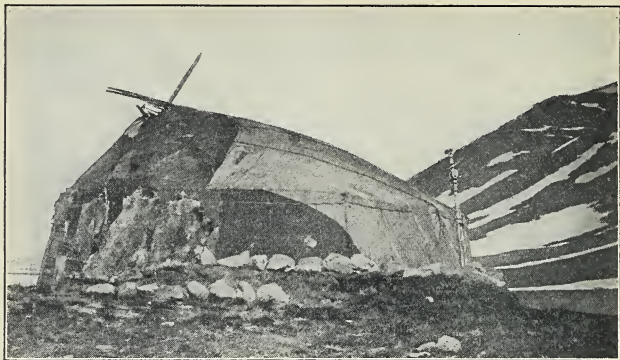

Fig. 542. How has the Siberian used the resources of his stern land for clothing, shelter, and weapons?
**What climate does to us.** The progressive nations of earth live in regions of varying storms and sunshine. The changing weather stimulates human brains and muscles. When we have monotonous weather for several days, the work done in factories and in schools is poorer until a change comes. In climates where there is no change, progress lags. Some climates are too good to our bodies; they furnish food and shelter too easily (Fig. 541). Other regions are too severe, exhausting all human energies just to find food and shelter (Figs. 542 and 543). Between the extremes lies the ideal climate where farms yield surplus and cyclones and anti-cyclones stimulate man to labor and invent.